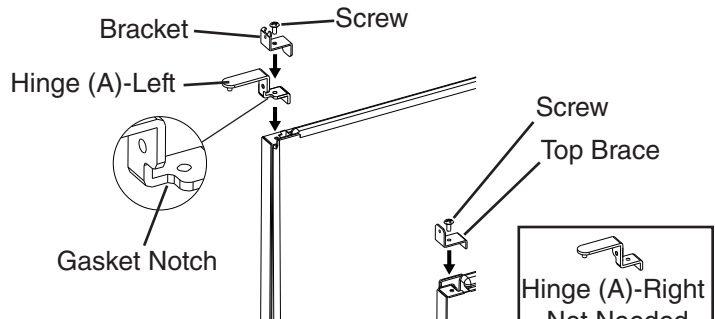

Fig. 12
- c) Remove hinge (A)-right and the bracket from the right side of the unit. Set aside hinge (A)-right; it is not needed. Remove the top brace from the left side. Fasten hinge (A)-left and the bracket to the left side and the top brace to the right side. See Fig. 12.